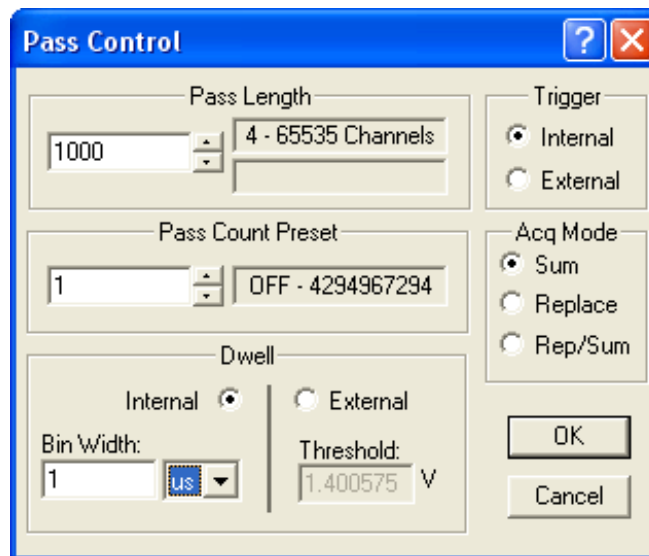

Fig. 6. Pass Control Dialog.
To set the pass control parameters, click the **Acquire** menu at the top of the screen, and select **Pass Control...** This will open the Pass Control dialog shown in Fig. 6.
If you've entered all of the fields correctly, the Pass Control dialog will look exactly like Fig. 6. If everything is correct, click the **OK** button to accept the settings.
- Click the **Acquire** menu and select **Pass Control...**. This will open the dialog shown in Fig. 6.